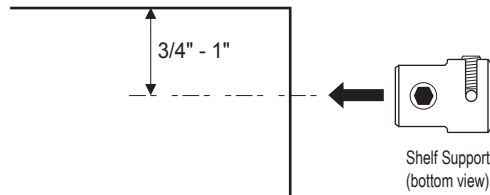

fig 1
1) Attach a clamp support to each corner of the glass shelf at 3/4"-1" distance from edge (fig 1).